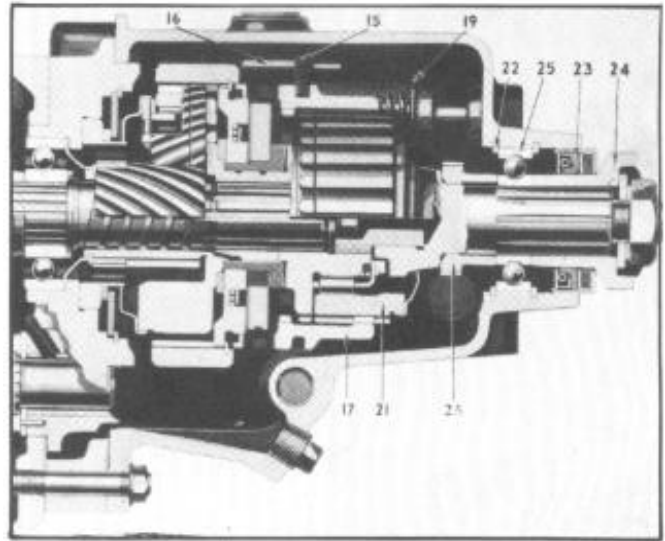

Figure 32--Installing Overdrive Main Shaft
8. Install overdrive main shaft bearing (25), Figure 32, locking in place with inner snap ring (22).